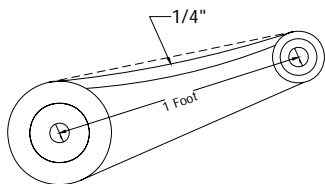

Figure 3
- B. Adjust the motor plate until the proper tension is reached. For proper tension, a deflection of approximately 1/4" per foot of center distance should be obtained by firmly pressing the belt. See Figure 3.